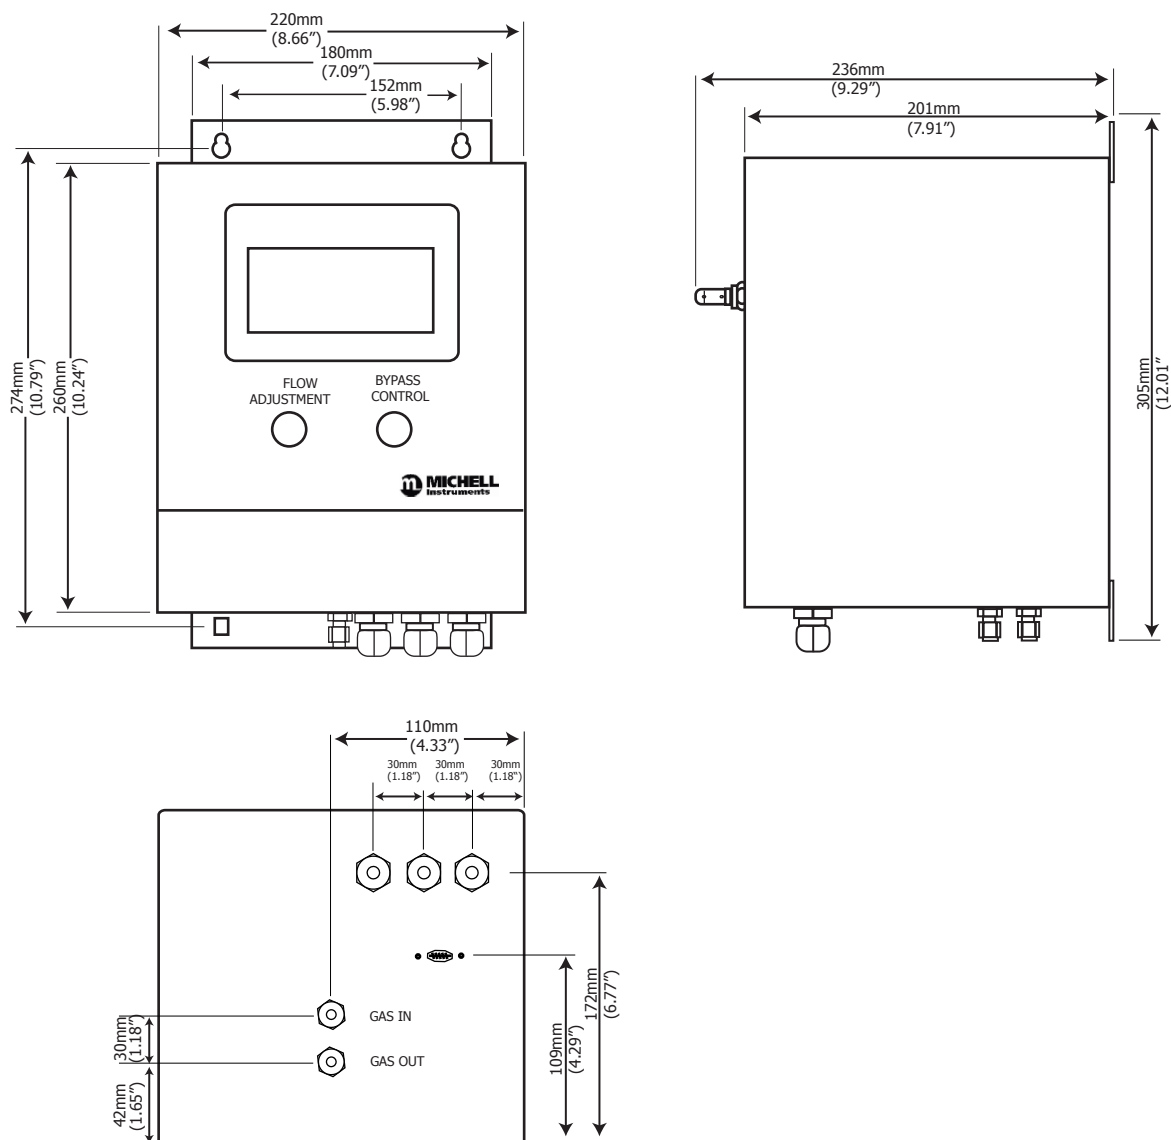

Figure 8 Dimensions – XZR400A2
2. Prepare the mounting site by drilling 4 holes to accommodate 6 mm (0.24") screws, according to the dimensions in *Figure 8*.